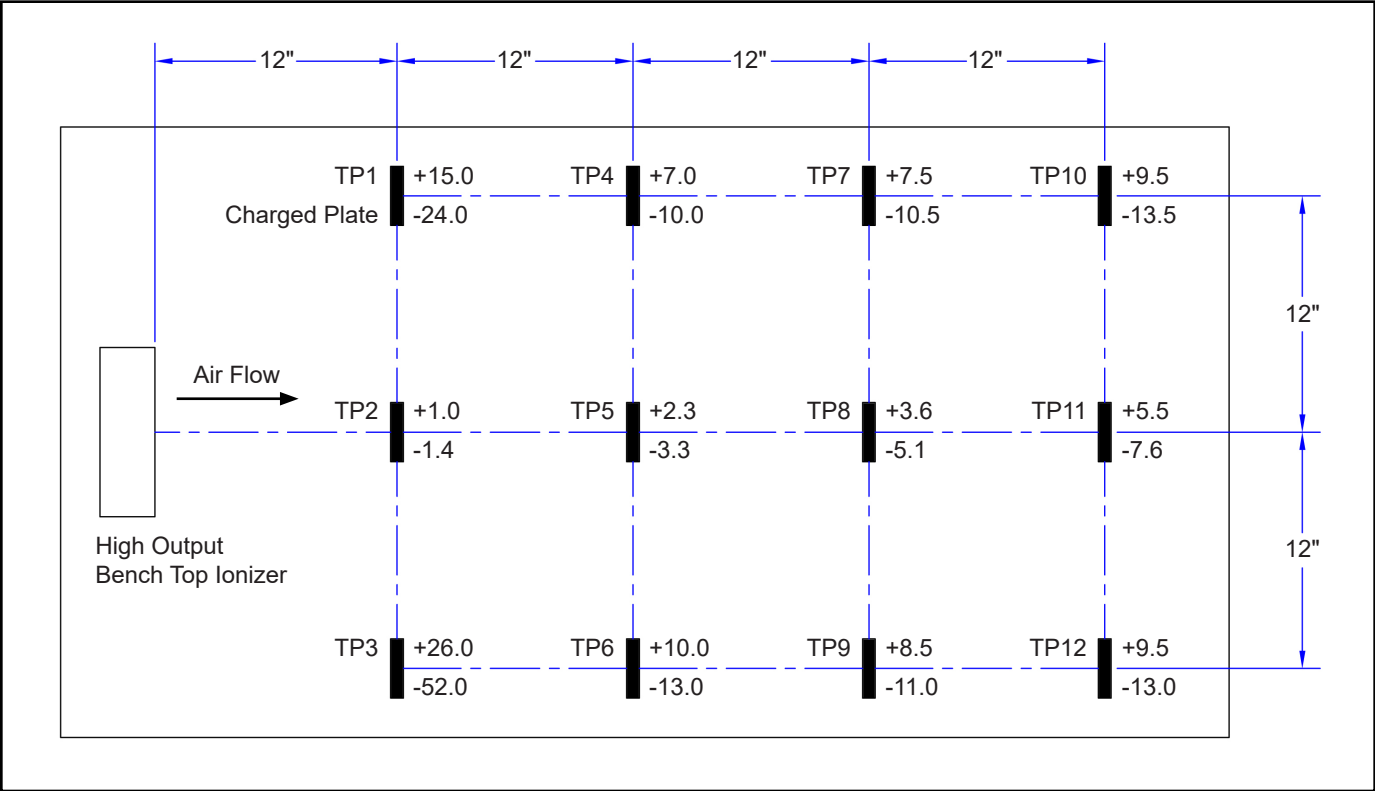

Figure 5. Neutralization (Discharge) Times at 120VAC / 220VAC, 60Hz input
5. Test the neutralization (discharge) time by applying a $\pm 1,000$ volt charge on the charged plate analyzer. The neutralization (discharge) time should be less than 2 seconds. See figures 5 and 6 for typical discharge times. The required limit per ANSI/ESD S20.20 is "user defined".
The comparative efficiency of benchtop ionizers is determined by a standard test published by the ESD Association: ANSI/ESD STM 3.1. Typical positive and negative discharge times (1000V - 100V) measured using this standard are shown in Figures 5 and 6. The performance of the ionizer was measured with the unit positioned as shown, with the fan speed on high and without a filter.